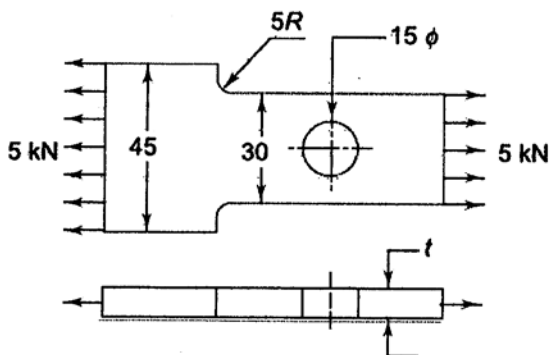

Figure Q5(b)
- (b). A flat plate subjected to a tensile force of 5 kN is shown in Figure Q5(b). The plate material is grey cast iron with $S_{ut} = 225$ N/mm² and the factor of safety is 3.0. Determine the thickness of the plate. [07]